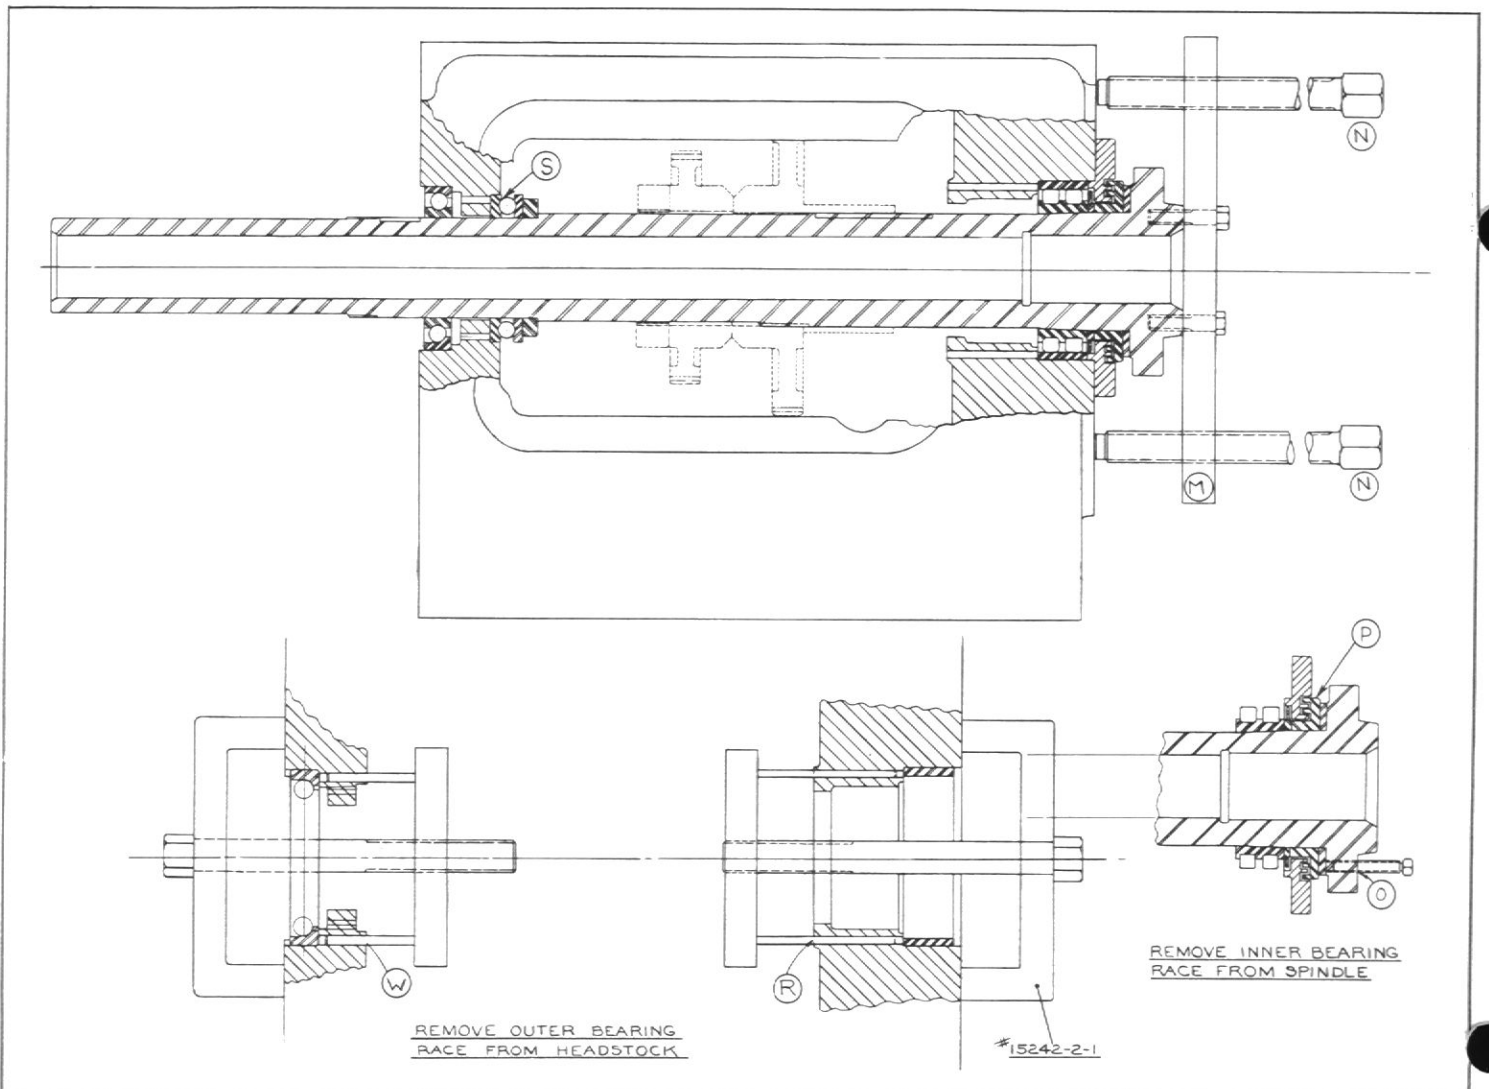

Figure 38 - Removing Spindle with Roller Bearings
- (1) To avoid a false reading, the spindle must not rotate during the lift reading.
- (2) The indicator shows a positive reading when there is clearance in the bearing.
- (3) Frequent indicator readings must be made while advancing nut K to obtain the controlled preload of the roller bearing. Insufficient indicator readings during the advance of nut K may force the bearing beyond its no-clearance position on the spindle for a sudden zero, or negative indicator reading.
- (b) Insert jack screws at 0 as shown in figure 38.
- (1) When the inner roller bearing race becomes seated on its mating spindle taper, 8 degrees of nut rotation expands the inner race .0001 inch.
- a. Push outer labyrinth P away from the spindle flange until stopped by the inner roller bearing race in the following manner. (Refer to figure 38.)
- (1) Insert jack screws at 0 in the spindle flange.
- (2) Insert shims between outer labyrinth P and the jack screws to prevent burrs.
- (3) Advance the jack screws to seat labyrinth P.
- b. Mount the split ring in position on the spindle (4 screws). (See key 34 and 36, plate 2.)
two opposite holes 0 in the spindle flange. The soft spacers prevent burrs on the face of the split ring. (See key 34, plate 2.) Refer to hole 0 shown in figure 38.
- (4) Advance both screws in equal amounts until a 1/32-inch feeler can be inserted between the split ring and the spindle flange. Remove the jack screws and the soft-steel spacers.
- (5) Repeat the bearing preload procedure starting with step 3.